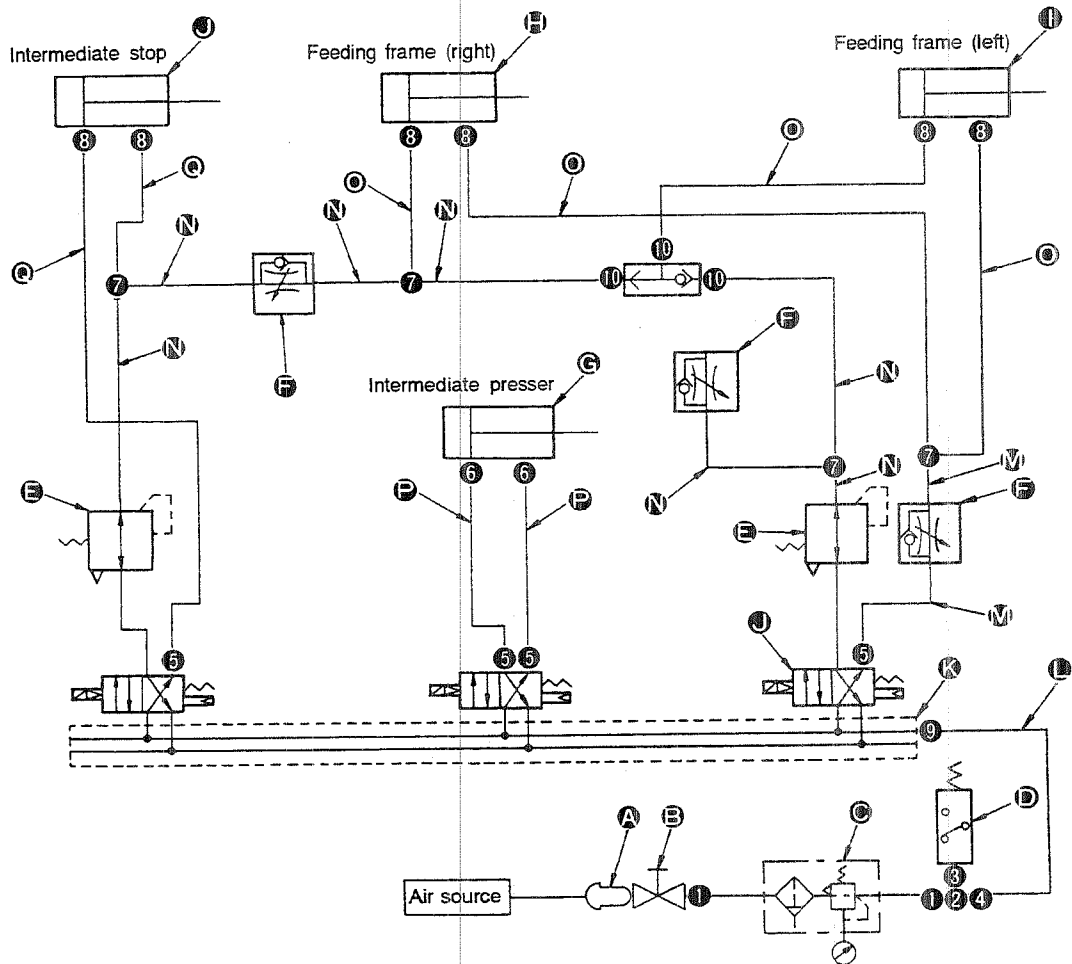

Fig. 4-5-1
<p>o Connect the pneumatic components properly referring to the schematic diagram (Fig. 4-5-1) and Disassembly/assembly procedure (7).</p> <p>* "(42) Connecting the pneumatic components" of Chapter 1 (S type) describes how to read the schematic diagram. So, refer to the description given there, if necessary.</p>	<p>o Malfunction of the feeding frame components and intermediate presser components may occur, resulting in machine failure or giving damages to the related components.</p>